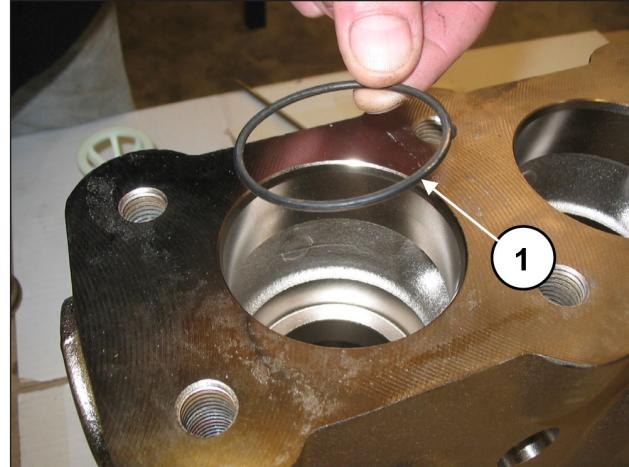

Fig. 120
Fit the O-ring, exploded view pos. 5 (pos. ①, Fig. 120).